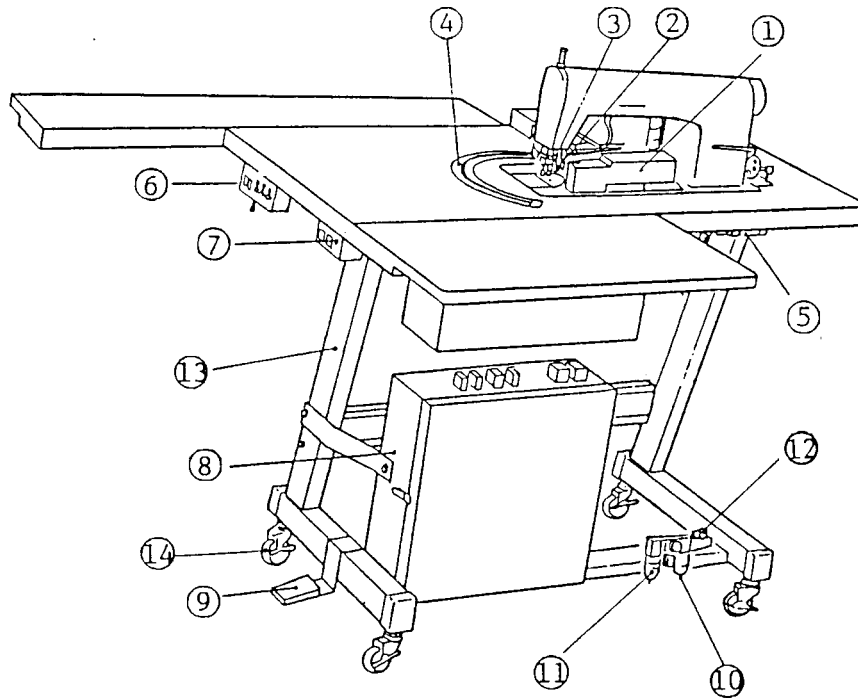
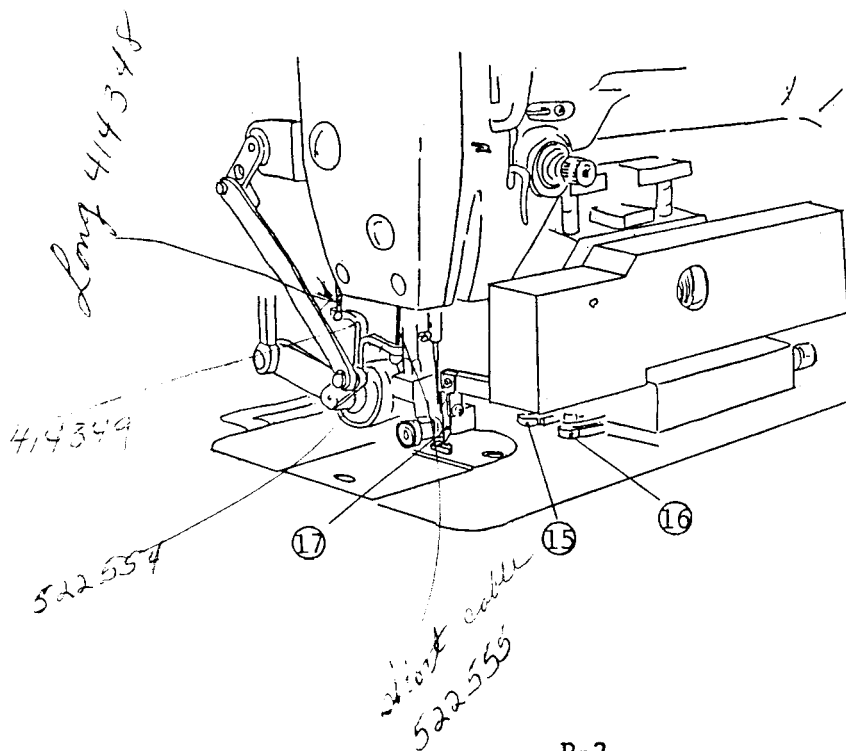

Fig. 1
Fig. 2
1. Name of principal parts (See Fig. 1 and Fig. 2)